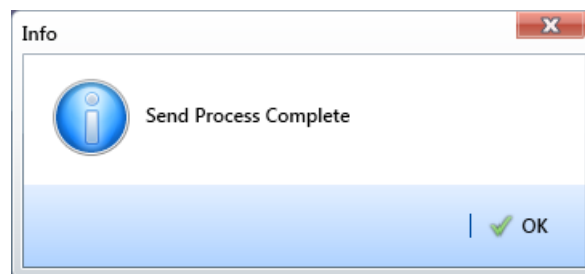

Figure 12-16. Send Process Complete
- 12 Click  **Send**. When a message displays confirming the send process is complete, click  **OK** to close the message (Figure 12-16).